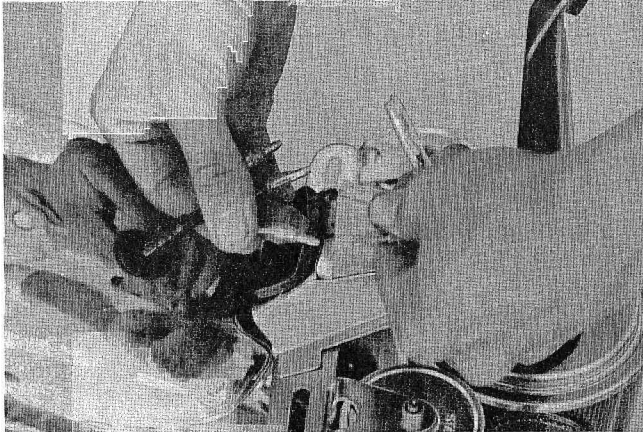

Fig. 41
34. Connect the lead wires of the tail lamp assembly and secure them with the hook. (The lead wires of the identical color must be connected to each other.) (Fig. 41)